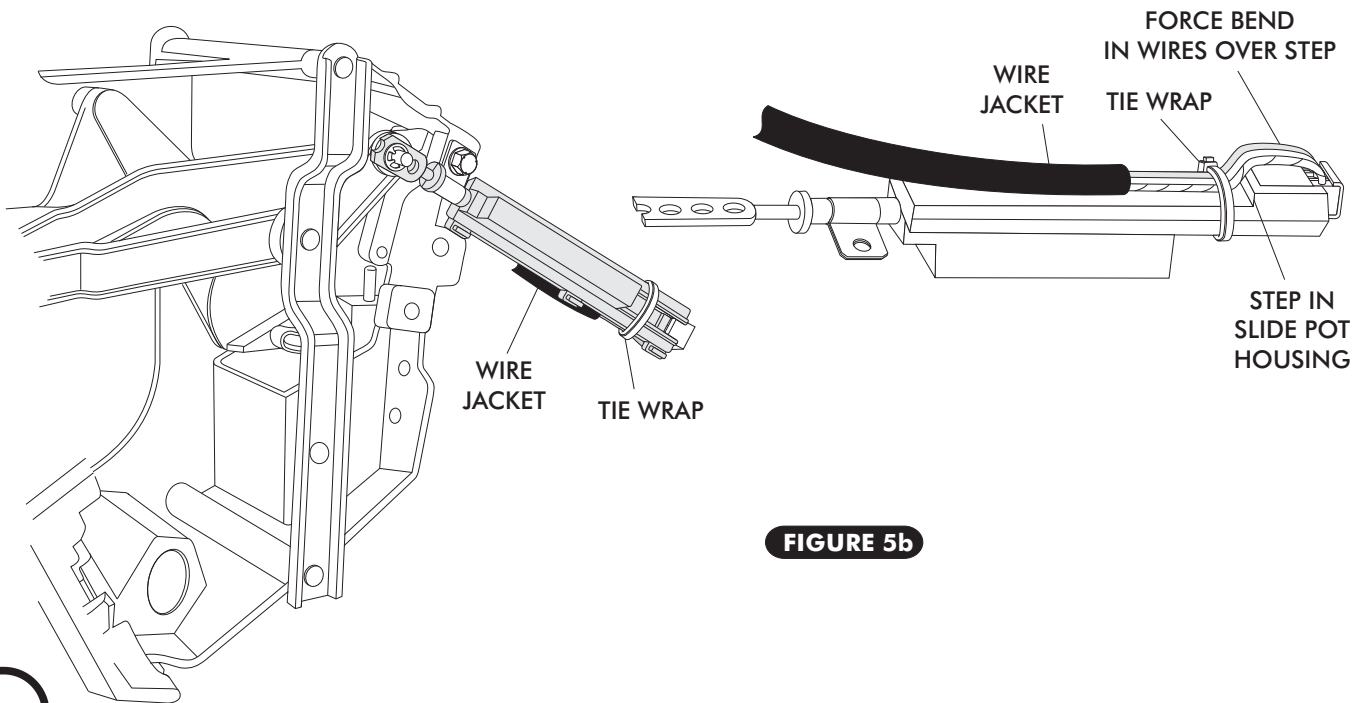

FIGURE 5b
- ONCE WIRES ARE CORRECTLY PLUGGED INTO SLIDE POT ASSEMBLY, SECURE WIRES TO THE SLIDE POT ASSEMBLY USING TIE WRAPS (SUPPLIED). SEE FIGURE 5b BELOW. THE TIE WRAP MUST BE LOCATED BETWEEN THE END OF THE WIRE JACKET AND THE STEP IN THE SLIDE POT HOUSING FORCING A BEND IN EACH WIRE AS THEY PASS OVER THE STEP IN SLIDE POT HOUSING. HEAD OF TIE WRAP MUST FALL ON EDGE OF HOUSING AS SHOWN TO REMAIN TIGHT. ENSURE THAT THE TIE WRAPS ARE SNUG ENOUGH THAT THE WIRES CANNOT MOVE. SEE FIGURE 5b.